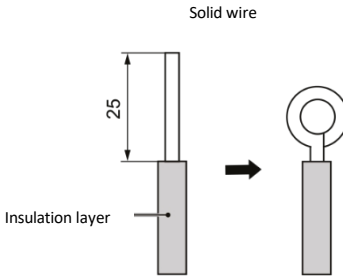
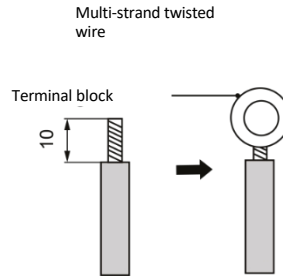

Fig. 13
Fig. 14
① Wire connection (as shown in Fig. 13)
- (1) Strip approximately 25 mm of insulation from the end of the wire using a wire stripper and cutter.
- (2) Remove the wiring screws on the terminal block.
- (3) Feed the wire end through the ring using long-nose pliers and secure the ring in place with the screw.
- (4) Use the screwdriver to tighten the terminal block.
② Connecting the stranded wire (as shown in Fig. 14)
- (1) Use a wire stripper and cutter to strip about 10 mm of insulation from the end of the stranded wire.
- (2) Loosen the wiring screws on the terminal block.
- (3) Insert the wire into the ring terminal and tighten it using the crimping tool.